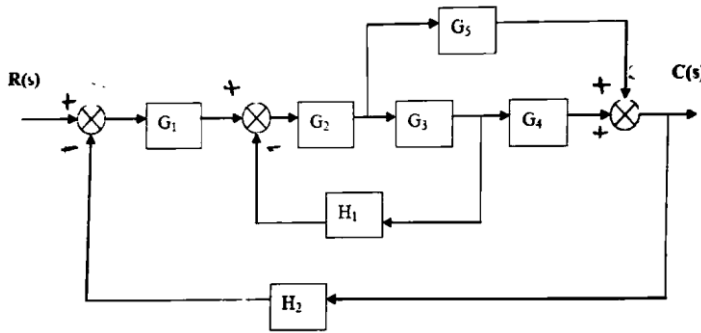

Fig. Q4(a)
4. a. Using block diagram reduction technique obtain the transfer function of the block diagram shown in Fig. Q4 (a). 10 (3 : 2 : 1.4.1)
- b. For the signal flow graph shown in Fig. Q4 (b), determine the transfer function. 10 (3 : 2 : 1.4.1)